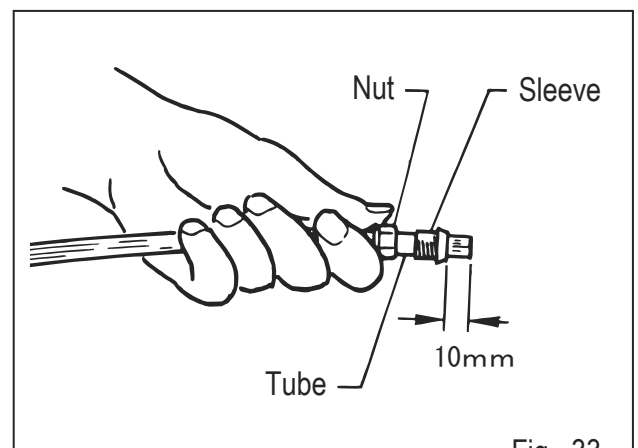

Fig. 33
- Installing the Nylon tube (Fig.33)